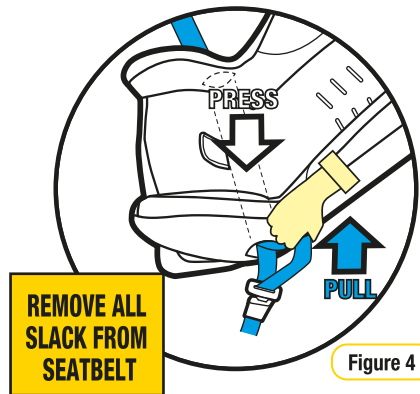

Figure 4
**Step 4:** Push down on the base of the restraint (with knee or hand) whilst pulling the sash section of the vehicle belt firmly up in direction of the blue arrow in Figure 4. (This will tighten the lap belt across the seat base).